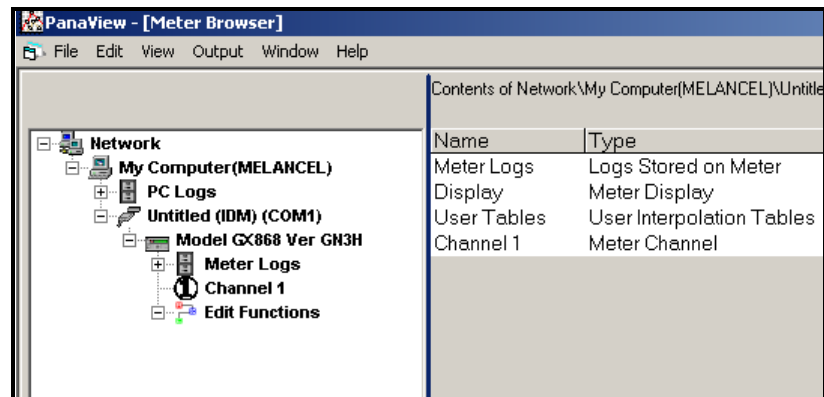

Figure C-18: New Meter Browser with Meter Branch
3. Then expand the meter tree as shown in Figure C-18 below.